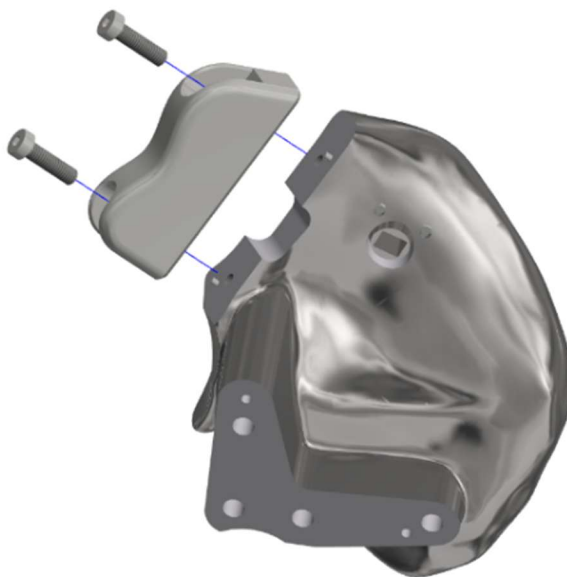

Figure 8-41. Install ASIS load cell
8.3.12 For the left and right sides, position the ASIS load cell as shown in Figure 8-41 and attach it to the iliac wing using two M5 X 0.8 X 18 LG. LHCS.